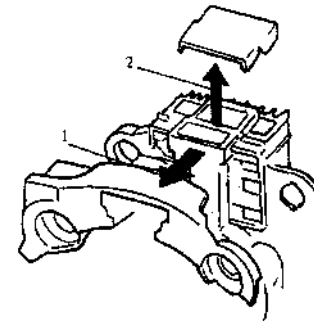
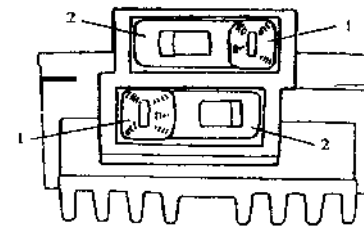
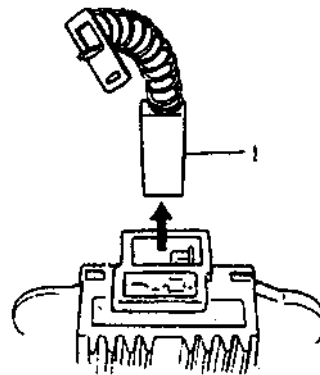

Figure 6.1-13
Figure 6.1-14
Figure 6.1-15
(10) To disassemble the brush, first disassemble the brush support cover as per Figure 6.1-13. Then separate the weld with the searing iron. Disassemble the brush support cover and pull out the brush. See Figure 6.1-14 and Figure 6.1-15.